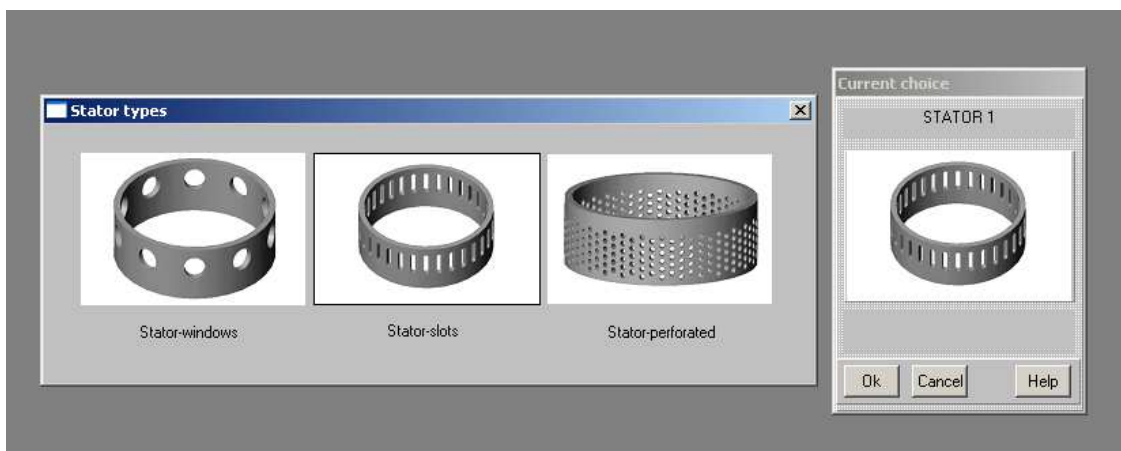

Figure 6.
1.3. After the input is confirmed with **OK**, a visual menu of stators will be opened for selection. In correspondence with the initial data, select the **SLOT-type** stator (Figure 6). Click on this image, and the selected scheme appears in the **Current choice** window. Confirm the choice with **OK**.